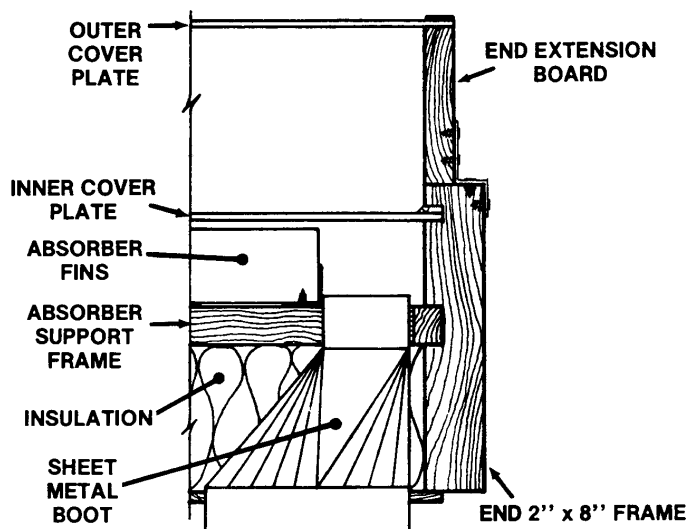

FIGURE 5 — SHEET METAL BOOT AND END ATTACHMENT
11. Cut holes in a 28 gauge 4' x 8' sheet metal to fit air inlet and exit ducts. The rectangular slots should be cut to match straight standard 2½" by 14" sheet metal boots (Figure 5).